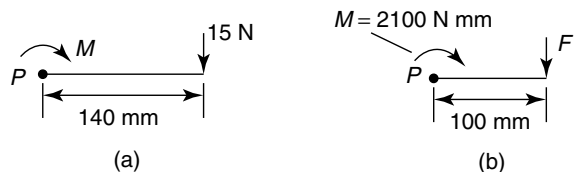

Figure 5.2
From above, $M = F \times d$, where M is the turning moment, F is the force applied at right angles to the spanner and d is the effective length between the force and the centre of the nut. Thus, with reference to Figure 5.2(a):
- (b) Turning moment, M is 2100 N mm and the effective length d becomes 100 mm (see Figure 5.2(b)).